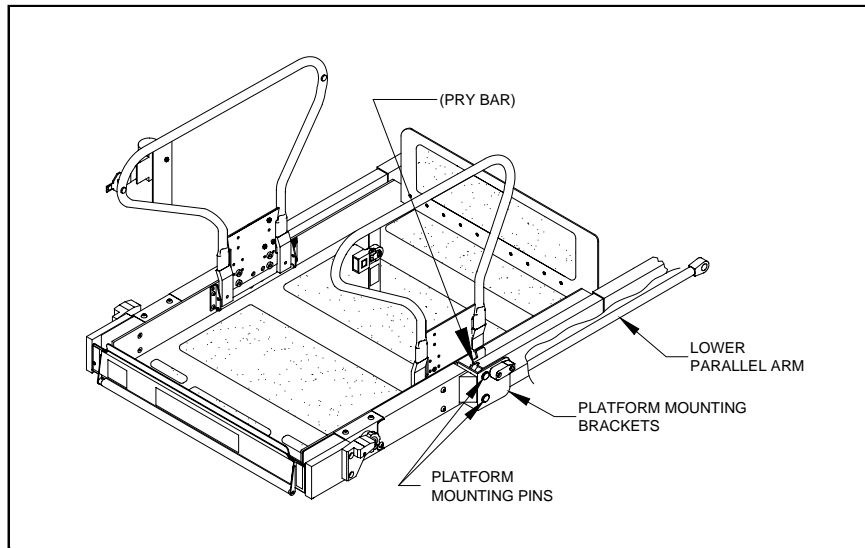

FIGURE 4-13: PLATFORM SEPARATION FROM LIFTING FRAME
- k. Refer to **Figure 4-13**. Remove bottom platform mounting pins from platform mounting brackets, and drop lower parallel arms.